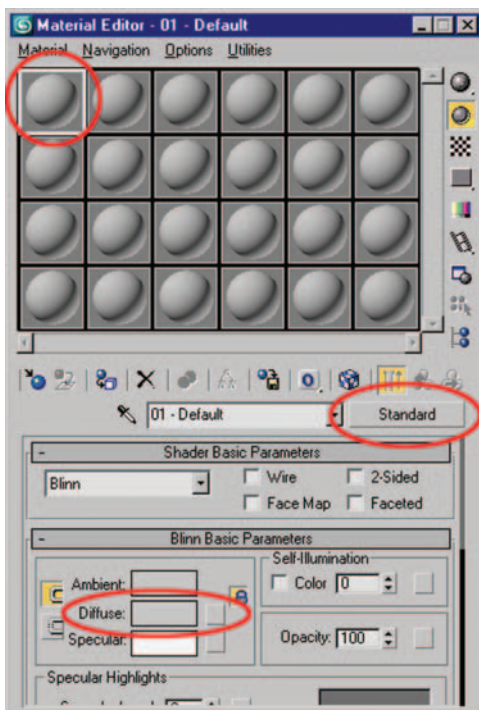

Figure 7.8 Material Editor, Standard material, and Diffuse slot where we are adding our blueprint image.
5. Hit the M key to bring up the Material Editor. Select the top left material slot and leave it as a Standard material (regardless of what renderer you are using; Figure 7.8).
6. Click on the small box next to the Diffuse color in the Material Editor, and double-click Bitmap from the list to the right of the window. You will be presented with the Select Bitmap Image File dialog box. In the Look in drop-down box, navigate to the directory with your blueprint images and select the side blueprint image (BP_side in the accompanying files). Before you click Open take a look at the statistics information listed at the bottom left of the dialog box. Here you will see the image size of your blueprint image; in my example its dimensions are 555 × 188 pixels. Make a note of this size, as it will be very helpful in the next steps. Figures 7.8 and 7.9 show the items discussed in this step.